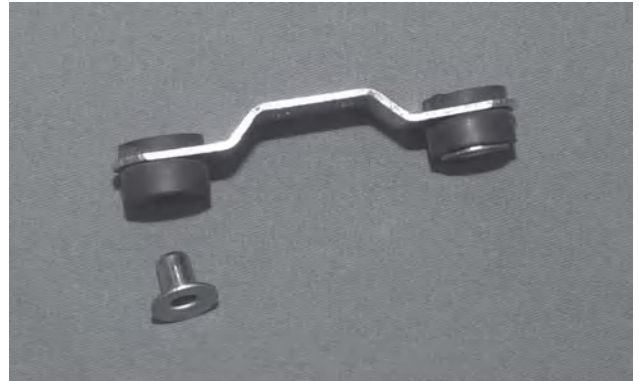

Fig. 9a
- Take the brass inserts out of the isolators. Install the isolators into the bracket as shown in figure 9a.
- Reinstall the inserts as shown in figure 9a.
- Using the solenoid mounting bracket as a template, lay the bracket on the inside rear face of the battery tray and mark the two (2) drill holes. For location see figure's 9b & 9c.